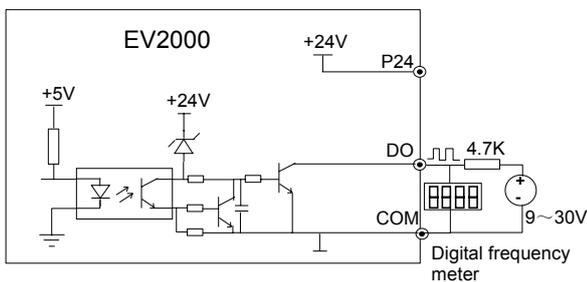

Fig. 3-31 Wiring 2 of output terminal DO
④ Pulse output terminal DO can also use the external 9~30V power supply and the wiring is shown in Fig.3-31.